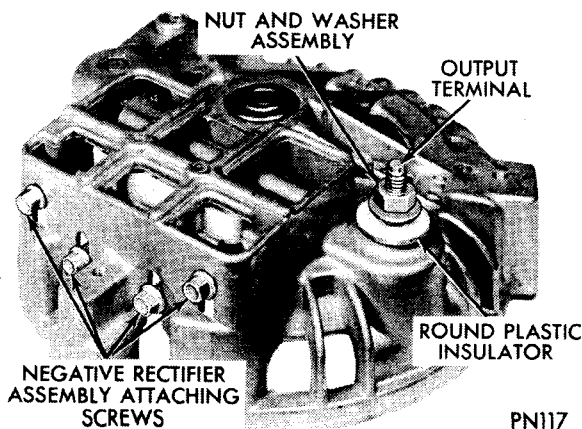

Fig. 19—Removing Negative Rectifier Assembly and Output Terminal Nut
Rectifier and Heat Sink Assembly Removal (Fig. 19)
- (1) Remove four hexagon-head screws, (Fig. 19) securing negative rectifier and heat sink assembly to rectifier end shield and lift heat sink assembly out of end shield.
- (2) Remove nut and washer assembly, (Fig. 19) from alternator output ("BAT") terminal (located on outside of rectifier end shield. Remove round plastic insulator.